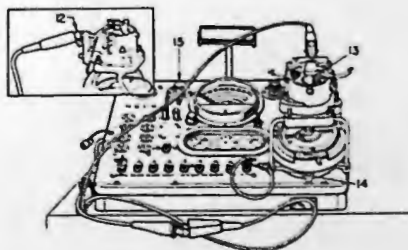

Fig. 2
- 7 Install 4 cyl. adapter on the stroboscope then install the distributor on the adapter with contactor taking the place of the coil (see insert Fig. 2).